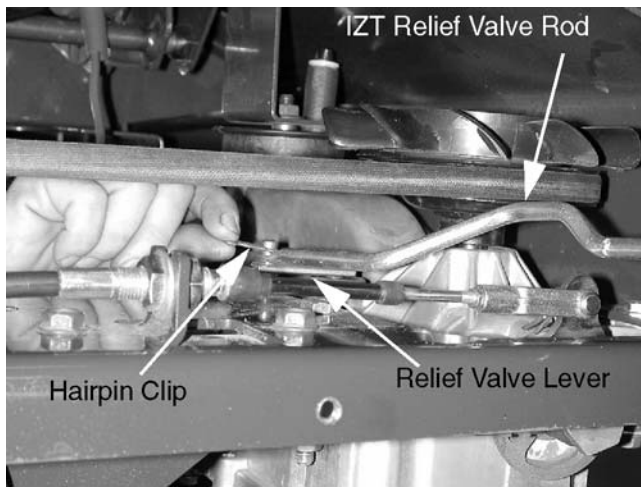

Figure 11-23
- a. Make certain the brakes are not dragging or out of adjustment. See Figure 11-23.